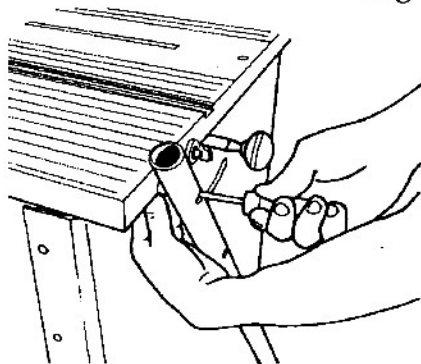

Fig. A-5
8. Hold the screw and spacer in place while inserting the screw through the far left hole in the front edge of the table, as seen in Fig. A-5. Let the other end of the tube rest on the floor.